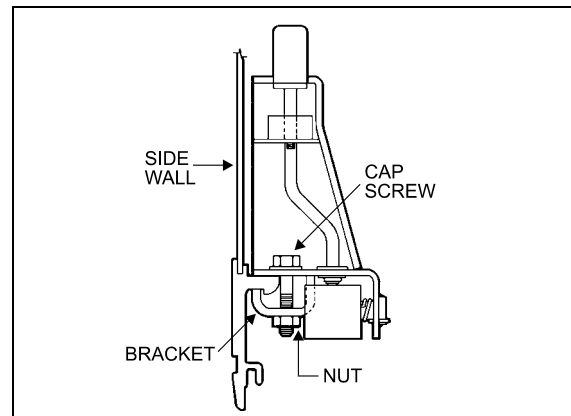

FIGURE 23: ARMREST
- Remove 2 cap screws, nuts, and washers holding seat frame to side wall and retain the 2 holding brackets. See figures 23 and 24.